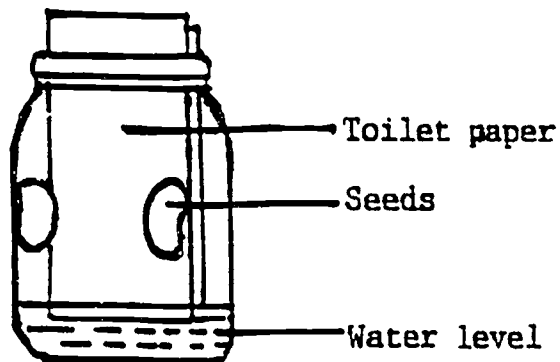

Fig. 26
2. Take 8 of the 24 seeds, soak them, then place 4 seeds between the paper and the jar in each of two jars, about 5 cm from the bottom as shown in fig. 26.